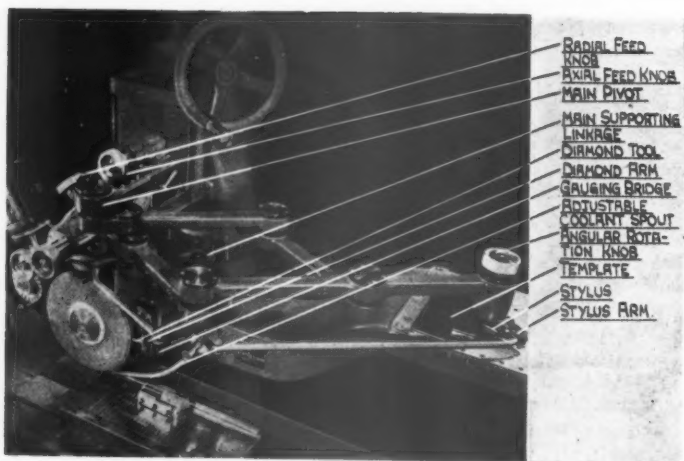

FIG. 38
(3) Our final illustration, Fig. 38, shows an American design of pantograph linkage for use on surface grinders, combining for the first time diamond dressing of the wheel with crush grinding. The normal procedure is to true the wheel with the diamond whose movement is controlled by the tracer through the pantograph. The wheel can then be used for grinding the crusher roller, which is situated behind the wheel and which will then maintain the wheel profile almost indefinitely until a new contour is required.